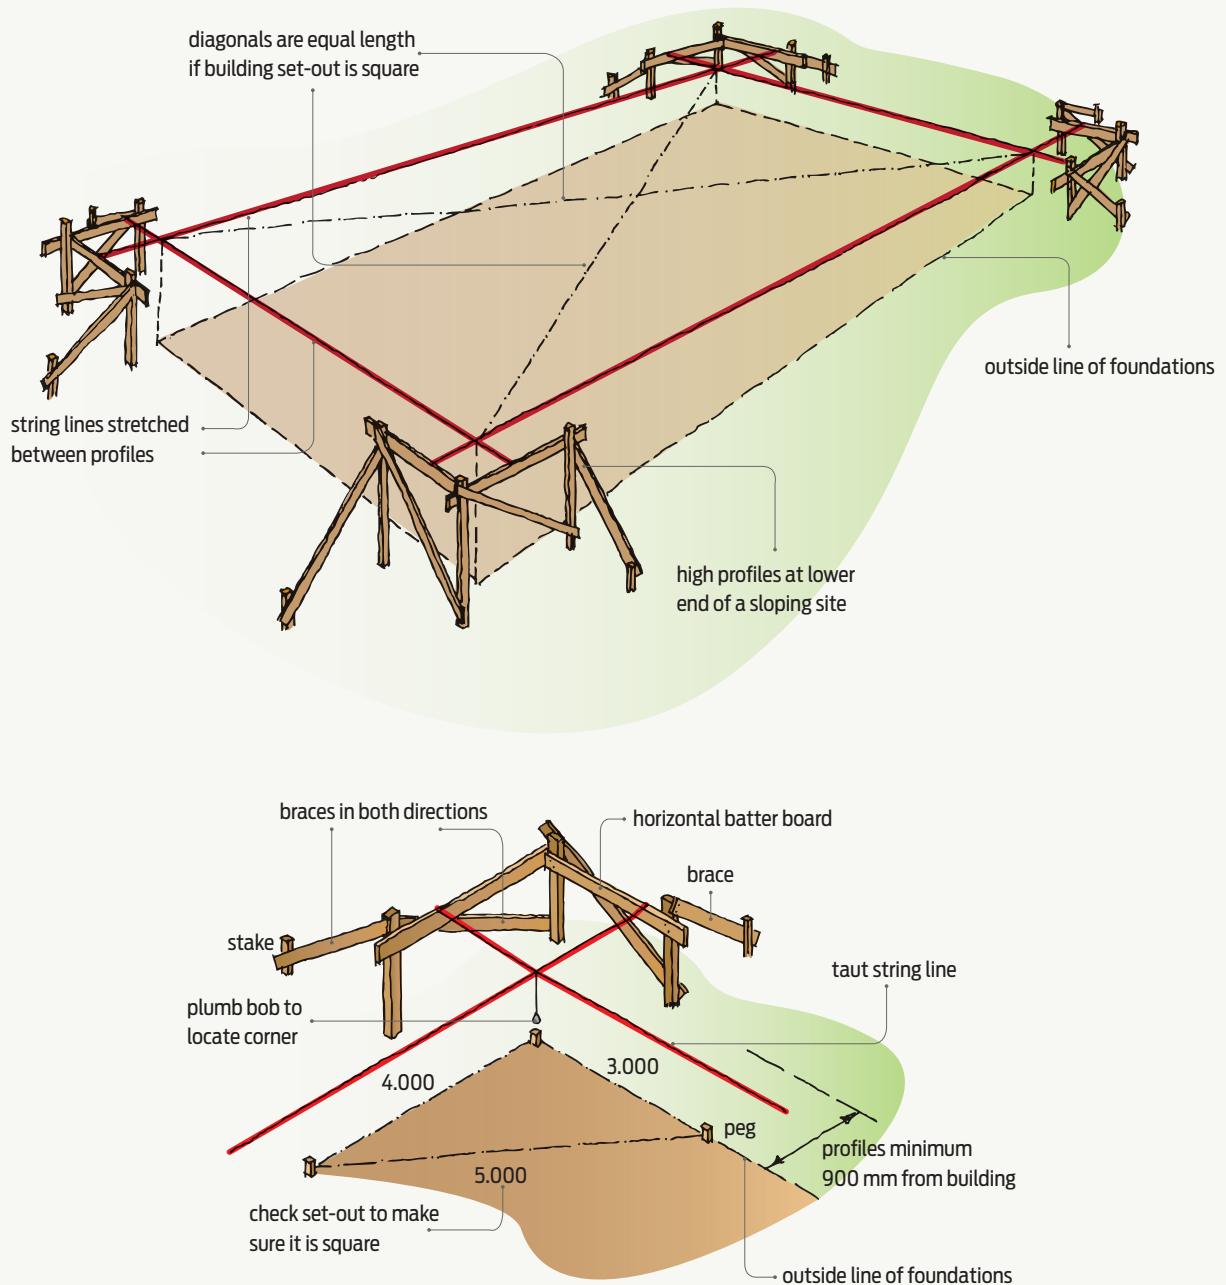

Figure 3 Building profiles.
- erect profiles approximately 1.2 m (but not less than 0.9 m) outside the perimeter of the building (see Figure 3)